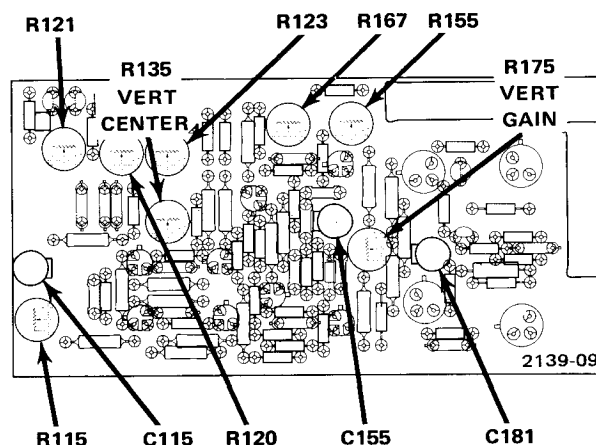

Fig. 5-4. Location of Vertical Amplifier adjustments.
c. ADJUST—Vertical Centering R135 to position the trace to the center horizontal graticule line. See Fig. 5-4 for adjustment location.
e. ADJUST—Vertical compensation R121 for optimum flat top on the displayed pulse, then adjust R120 and R123, increasing the sweep rate of the time-base unit to 1 μ s/div and 0.5 μ s/div, respectively. Repeat as necessary to obtain optimum flat top on the waveform. See Fig. 5-4 for adjustment locations.
g. ADJUST—Vertical compensations C637 (this adjustment is located on the main interface board between vertical compartments, SN B063251-up), C115, R115, C155, R155, R167, and C181 in the order given, for optimum square leading corner with aberrations within the limits given in part d. There is direct interaction between C115 and R115, and between C155 and R155. Best results are usually obtained by setting R115 fully clockwise, then adjusting C115. See Fig. 5-4 for adjustment location.
d. ADJUST—Vertical Centering R135 to position the trace to the center horizontal graticule line. See Fig. 5-4 for adjustment location.
e. ADJUST—Vertical compensation R121 for optimum flat top on the displayed pulse, then adjust R120 and R123, increasing the sweep rate of the time-base, when necessary. Repeat as necessary to obtain optimum flat top on the waveform. See Fig. 5-4 for adjustment location.
f. ADJUST—Vertical compensations C637 (this adjustment is located on the main interface board between vertical compartments, SN B063251-up), C115, R115, C155, R155, R167, and C181 in the order given, for optimum square leading corner with aberrations within the limits given in part d of this step. There is direct interaction between C115 and R115, and between C155 and R155. Best results are usually obtained by setting R115 fully clockwise, then adjusting C115. See Fig. 5-4 for adjustment location.